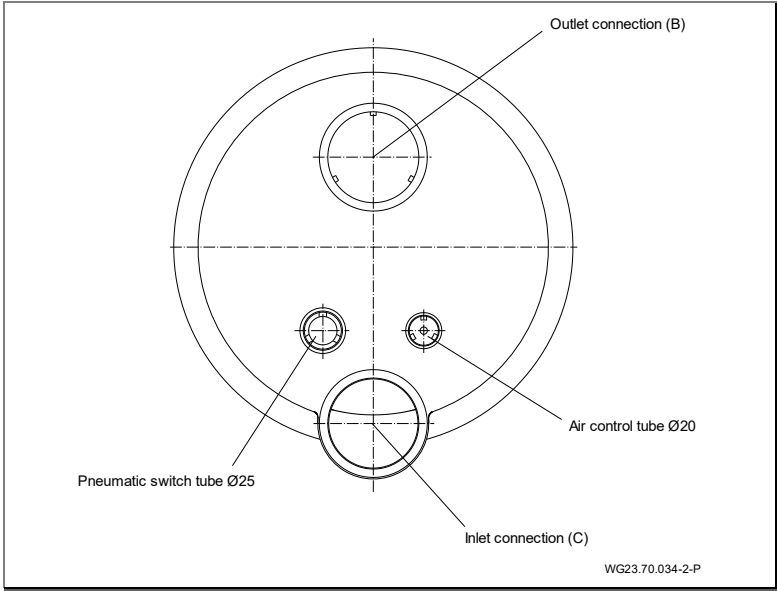
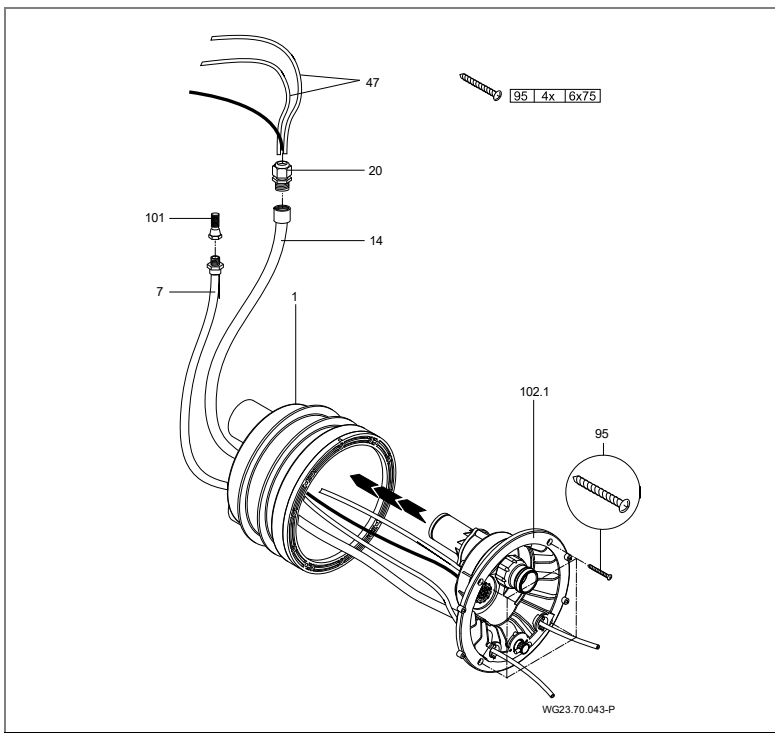

Fig. 15
Fig. 16
1. Glue in the cable protection hose and the hose for air supply. (Fig. 15)
2. Position the nozzle housing (102.1) on the main housing (1).
3. Lead the pneumatic hoses (47) and floodlight cables through the protective conduit (14) and seal with the cable gland (20).
4. Attach the air pipe to the air regulator (21), assembled on site, with a clamp (8).
5. Attach the nozzle housing (102.1) to the main housing (1) with 4 tapping screws (95). (Fig. 16)